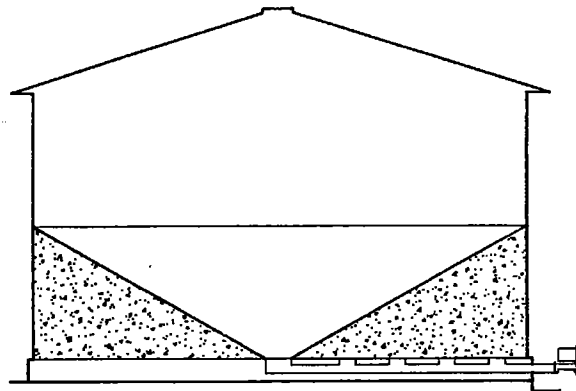

FIG. 4
*The grain remaining should appear as in Fig. 4.